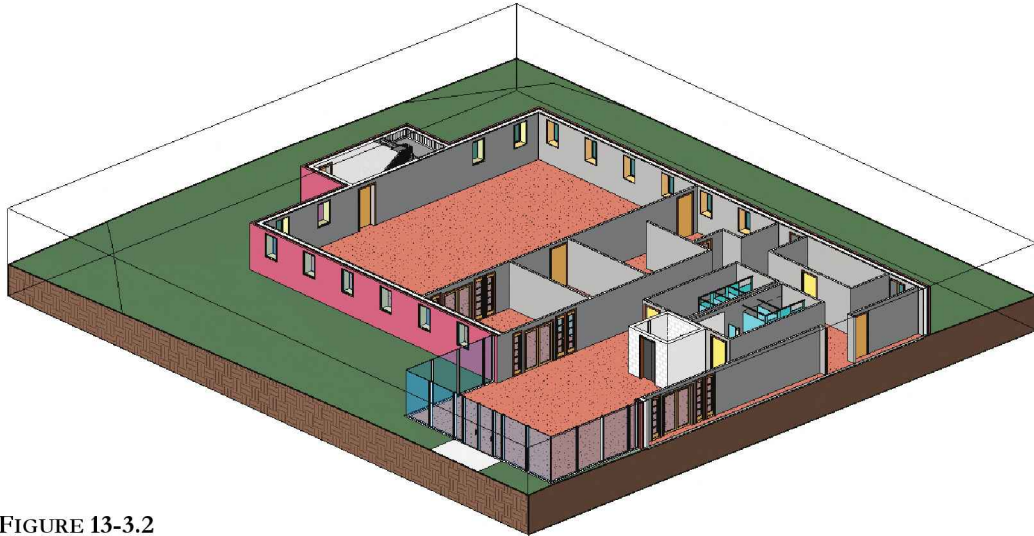

FIGURE 13-3.2
- To practice using the **Section Box**, drag the grips around until your view looks similar to **Figure 13-3.2**.